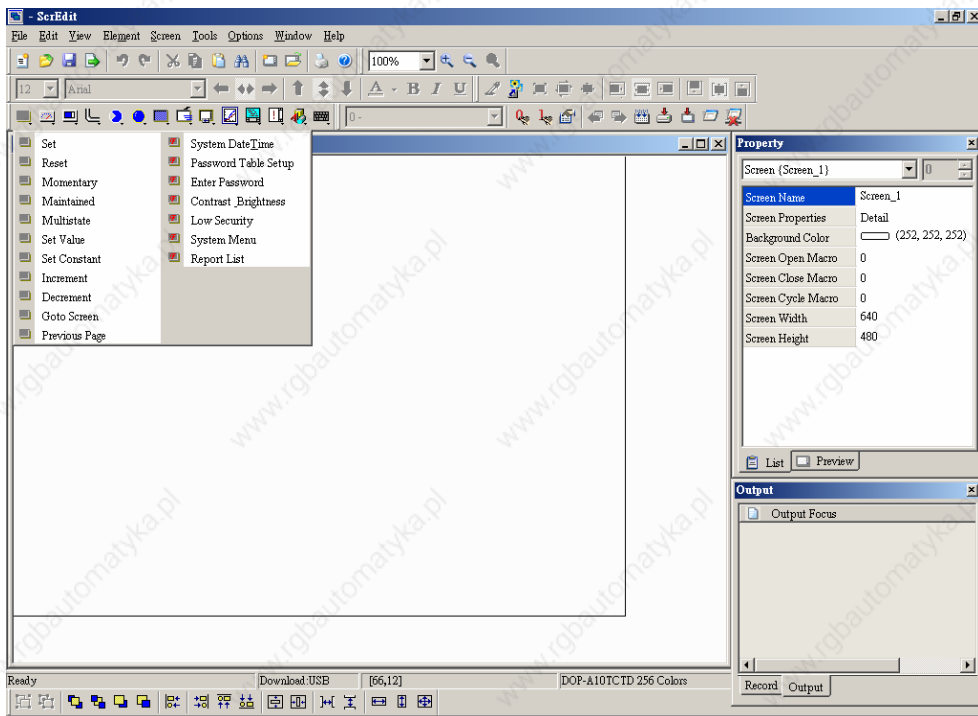

Fig. 3.1.3 Choosing Element icon from toolbar
3. Choose Element icon from toolbar as Fig. 3.1.3.